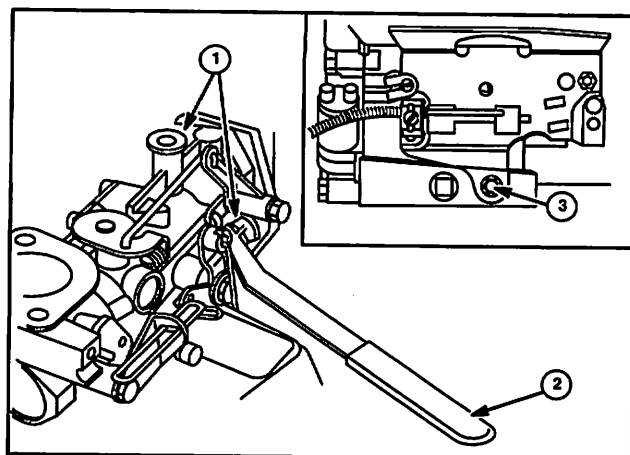

Fig. 89
1. Connect governor linkage to carburetor linkage and using Tool #19305, Offset Screwdriver, Tool #19391, Torx® Wrench, or open end wrench (2), install two screws (1) holding carburetor to engine, Fig. 89.
2. Install screw to bottom of fuel tank bracket (3).